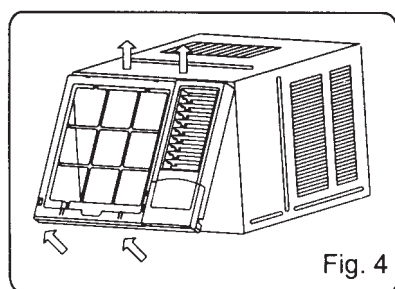

Fig. 4
2. Grasp the left corner in the frame's underside, the loosen the frame. (see Fig.4)